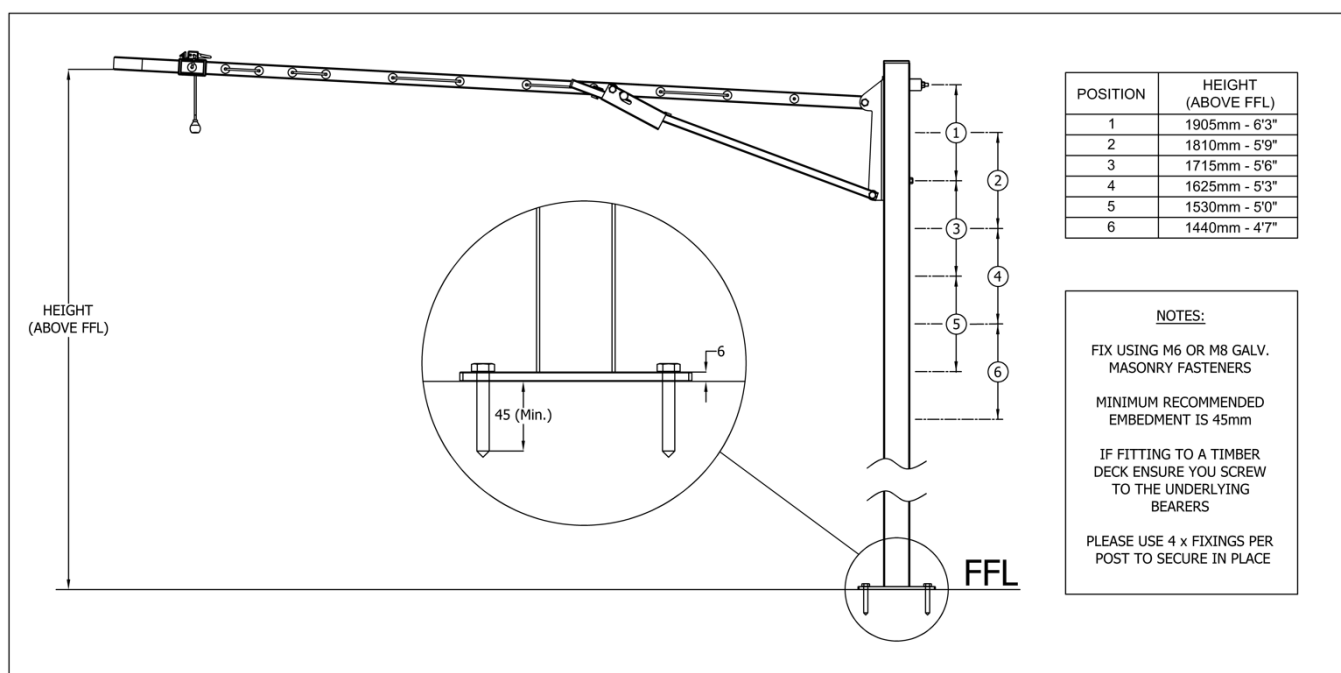

Fig. 9 Installation of Plated Post GMK.
- Install the Plated GMK as per the below image (Fig. 9) at 3,300mm centres.